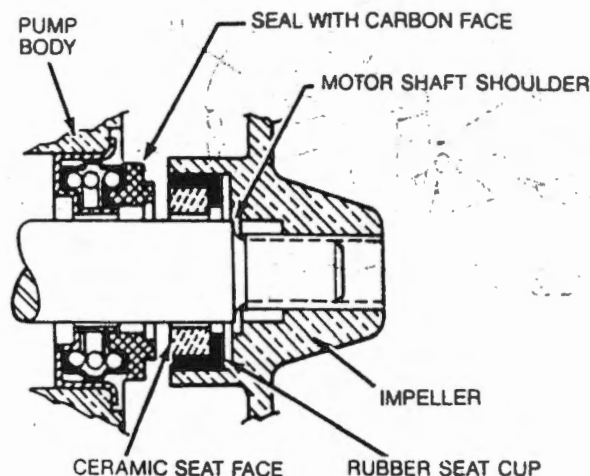

Figure 3 — Seal Arrangement
6. Handle seal carefully. Do not touch the carbon graphite and ceramic sealing surfaces. Lubricate motor shaft and rubber seat cup of seal that slides down shaft (see Figure 3) with water and dish soap (3 drops to 1 oz. water).